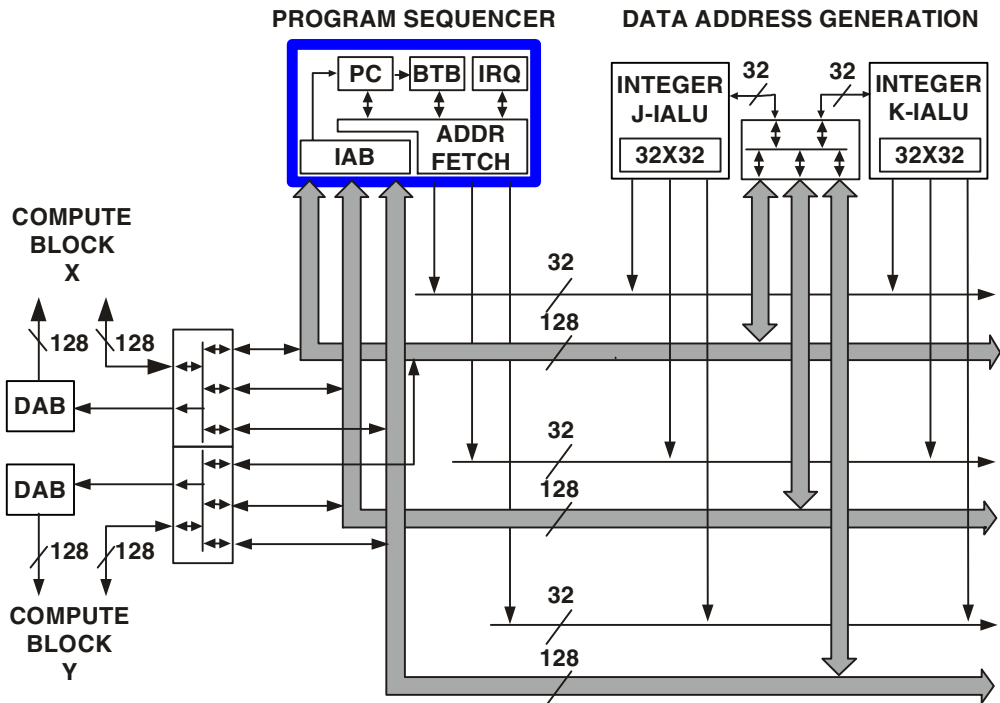

Figure 7-1. Program Sequencer
The TigerSHARC processor core contains a program sequencer. The sequencer contains the instruction alignment buffer (IAB), program counter (PC), branch target buffer (BTB), interrupt manager, and address fetch mechanism. Using these features and the instruction pipeline, the sequencer (highlighted in Figure 7-1) manages program execution.